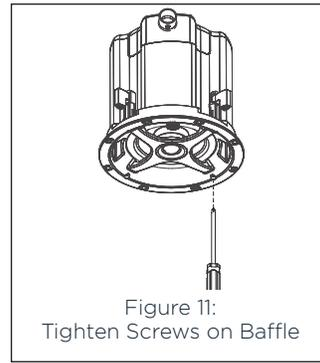

Figure 11:
- Tighten the four screws on the front of the baffle. The Roto-Lock Clamps will rotate into position automatically and begin clamping. When you notice resistance on the four screws, the speaker has been clamped successfully (see Figure 11). The flange is designed to flex and conform to any small imperfections in the ceiling surface.